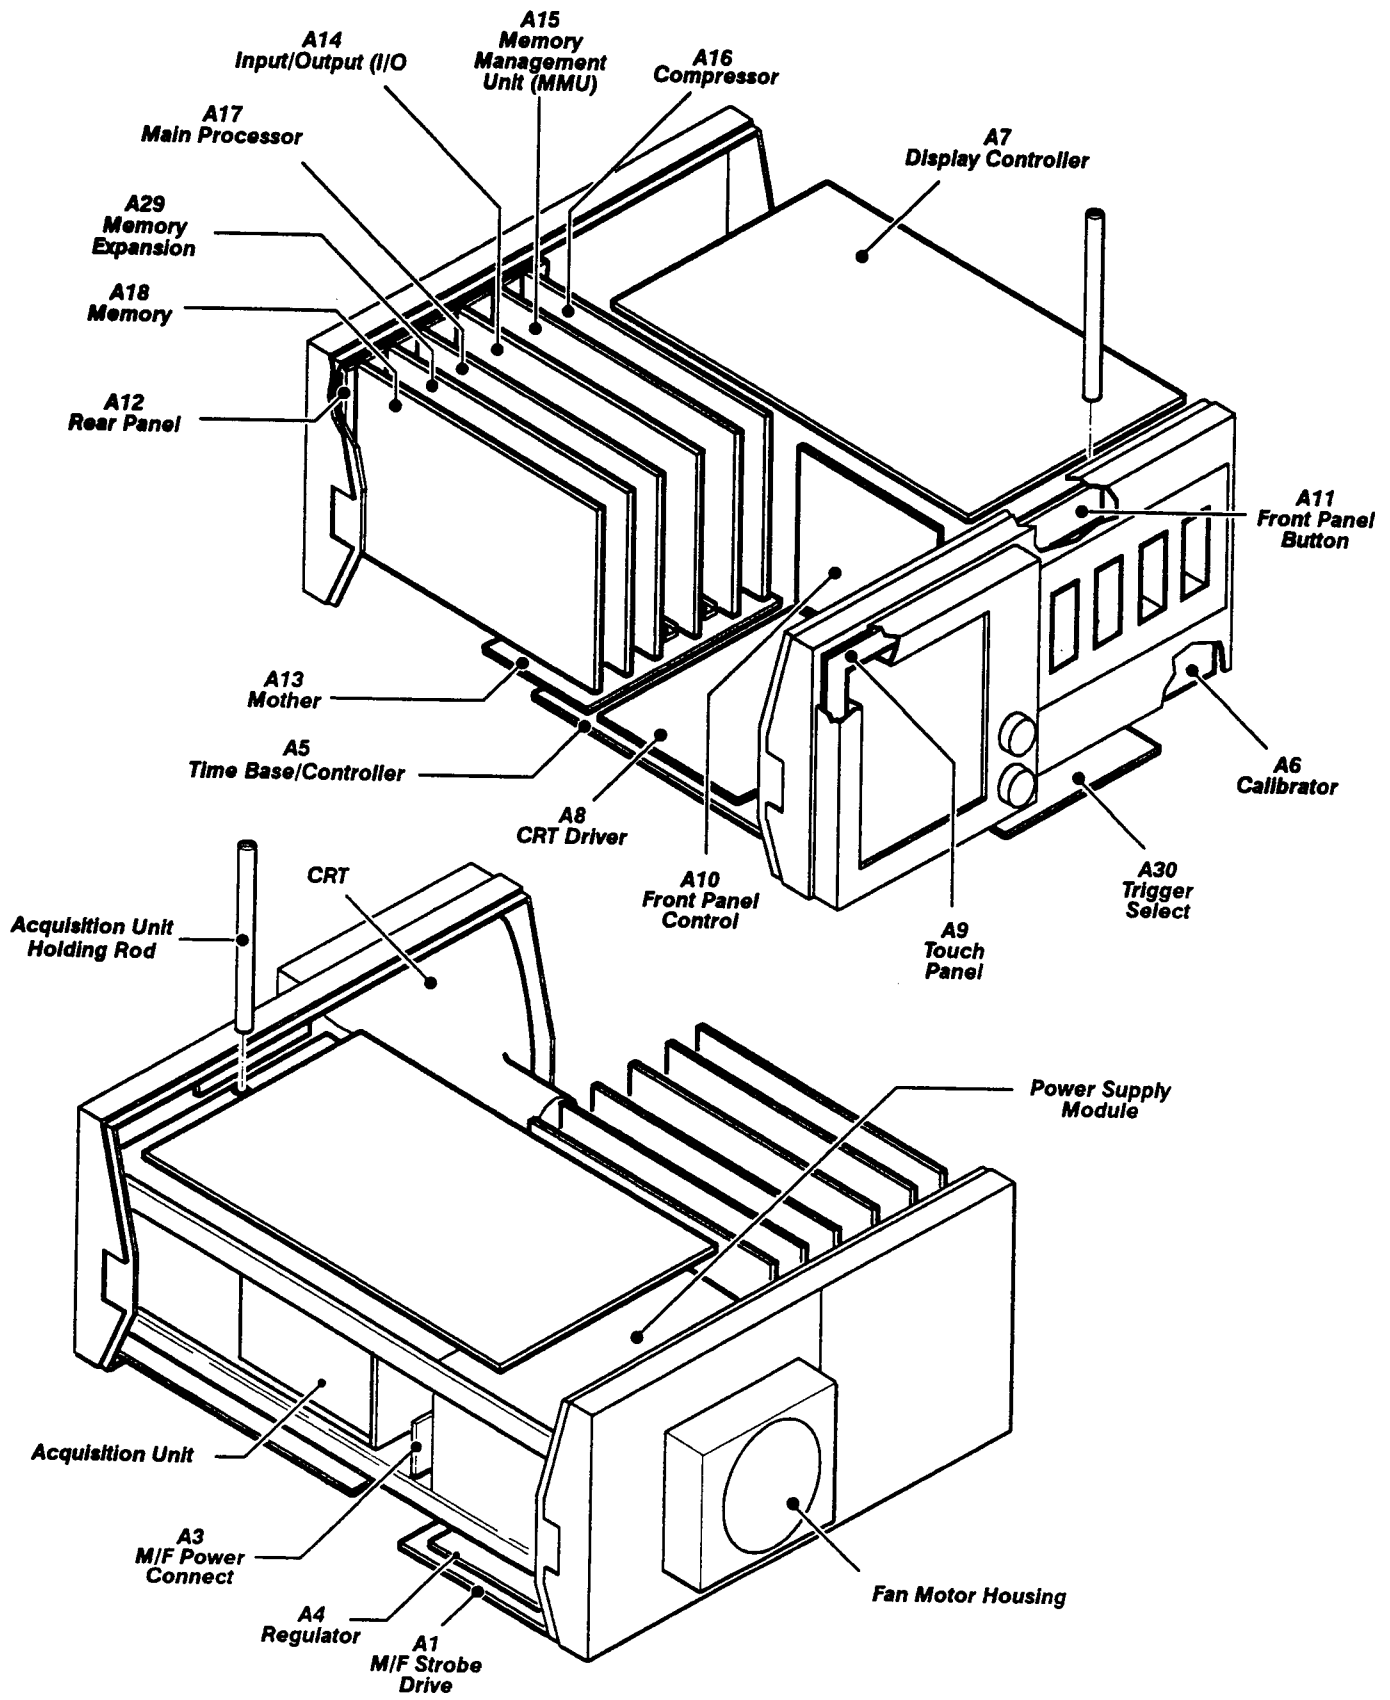
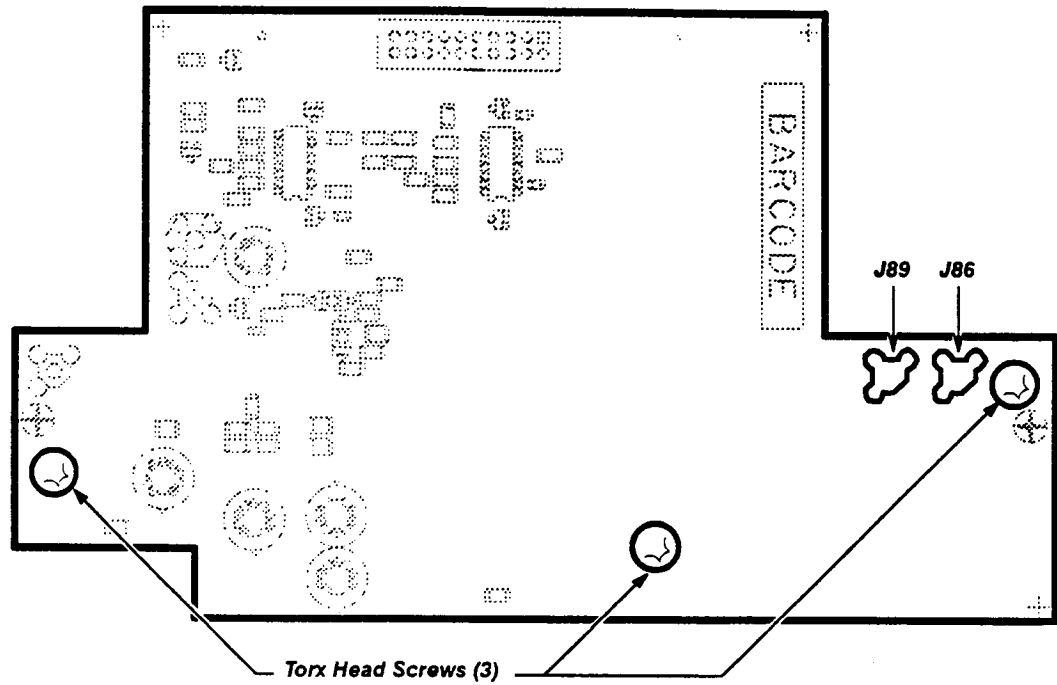

Figure 1 - Mainframe circuit board locations.
Figure 4 - Trigger Select circuit board A32.
- 4. Remove the long holding rod located on the top of the instrument in front of the Display Controller circuit board A7. The holding rod secures the Acquisition Unit into the instrument. Refer to Figure 1, for holding rod location.
- 8. Remove the three (3) Torx drive screws that secure the Trigger Select circuit board A32. The Trigger Select circuit board is located on the bottom of the instrument below the Acquisition Unit.
- 9. Disconnect coaxial cable connectors J86 and J89 from the Trigger Select circuit board. Note cable connector locations for later reassembly. Move the Trigger Select circuit board aside to allow J86 and J89 coaxial cables to be pulled through the grommets in the lower frame chassis. Refer to Figure 4 for J86 and J89 connector locations.